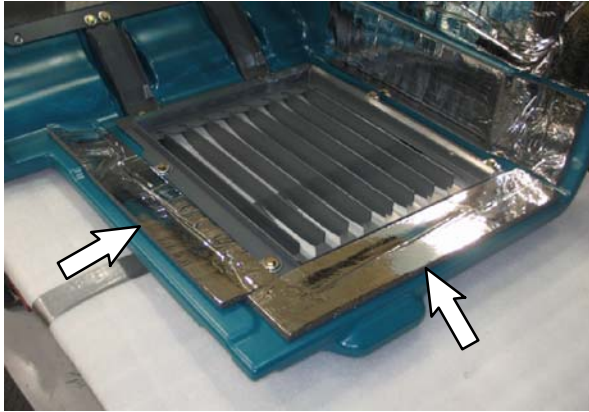

FIG. 86
107. Install two pieces of insulation (24) onto the right rear cover (78). (Fig. 86)